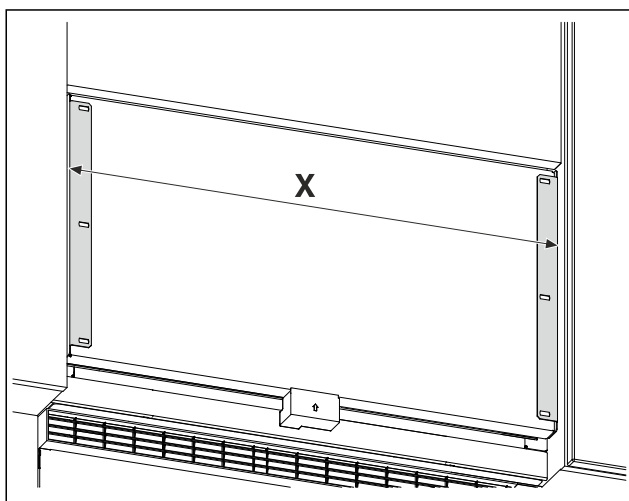

Fig. 26 Example illustration
- ▶ Measure the distance Fig. 26 (X) between the outer edges of the retaining brackets.